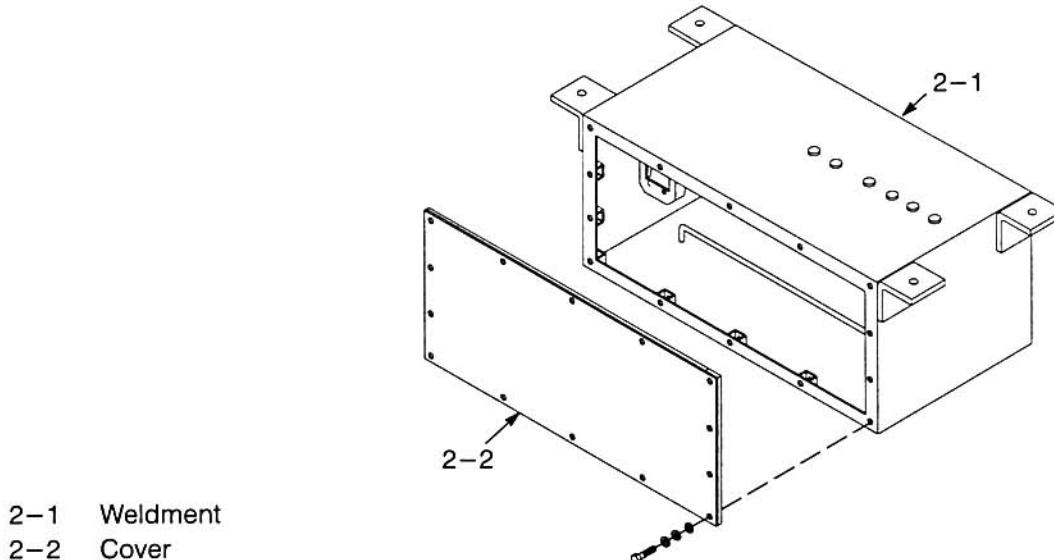

Figure 7-176 Clean Contactor Group
- a. Remove any loose debris from parts using a sash brush and/or clean wiping rag (Figure 7-176).